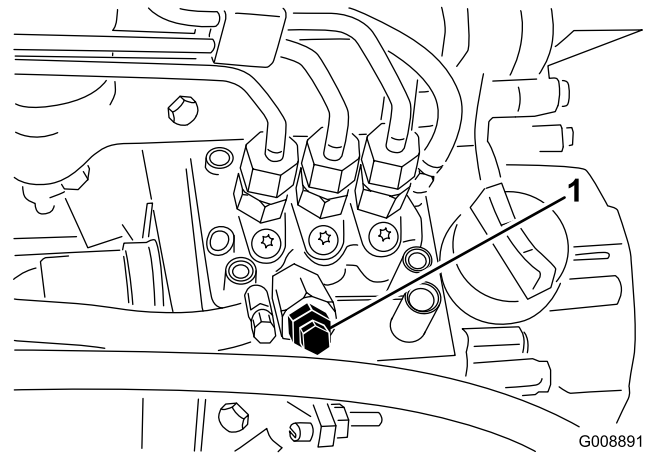

Figure 34
3. Open the air bleed screw on the fuel injection pump (Figure 34).